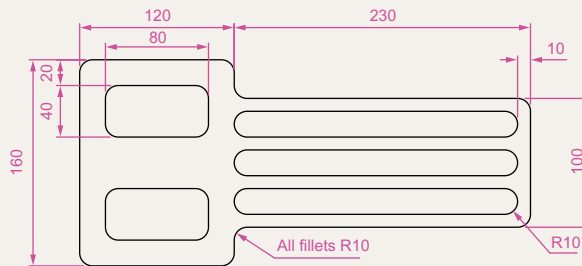

Fig. 5.46 Exercise 1
1. Construct the Fig. 5.46. All parts are plines of width = 0.7 with corners filleted R10. The long strips have been constructed using **Circle**, **Polyline**, **Trim** and **Polyline Edit**. Construct one strip and then copy it using **Copy**.